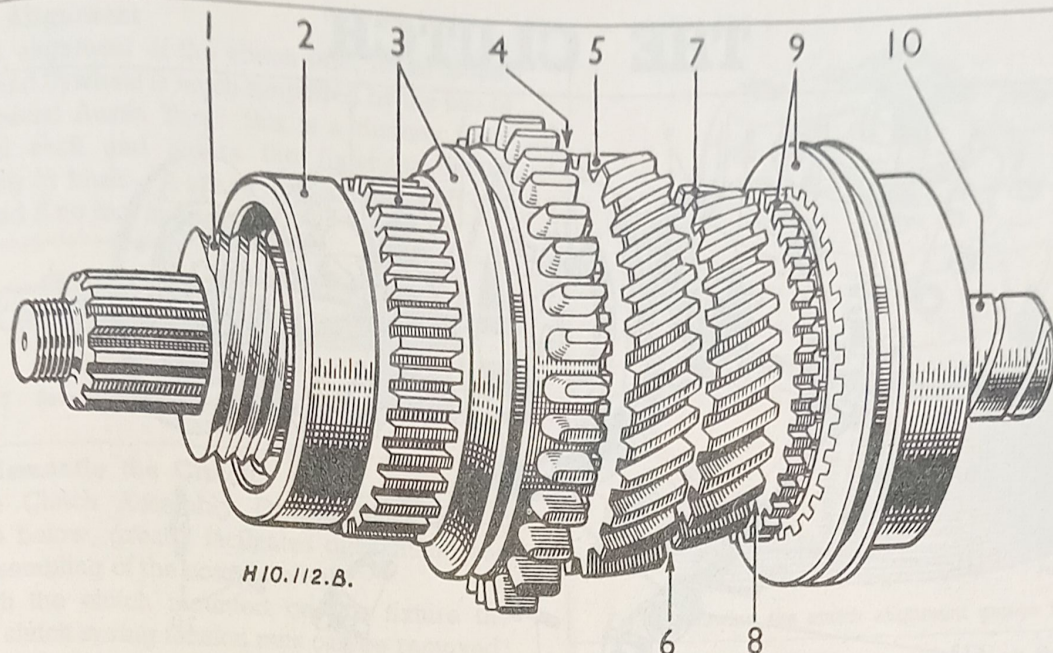

Fig. 13. Order for assembling the third motion shaft.
The laygear will then drop sufficiently for the gears to come out of mesh, and the Third Motion Shaft Assembly complete can be moved rearward and lifted from the box. (See Fig. 13 and 14 and accompanying text for detail of assembly of gears and shaft).
Fig. 13 shows the correct running assembly of the Third Motion Shaft, but actually the speedometer wheel (1) and the ball bearing (2) are not assembled till the shaft and gears are positioned in the box. The rear ball bearing is then pressed into the bearing housing, the speedometer wheel follows, and the rear cover